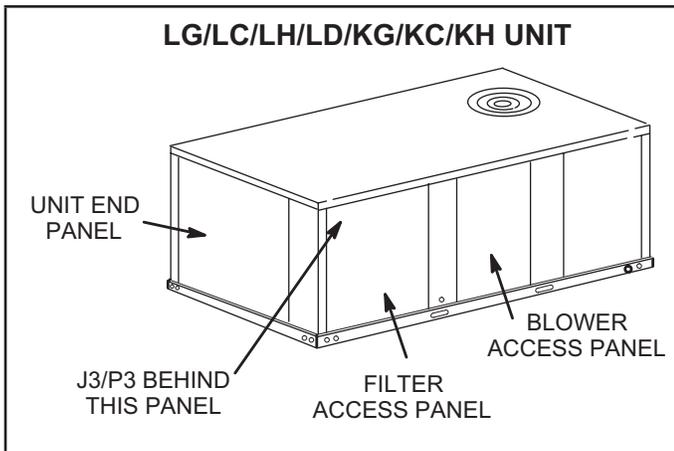

FIGURE 1
- 3 - Remove and retain five screws securing end panel to the unit. See FIGURE 1. Remove and discard end panel.
- 3 - Remove and retain screws securing end panel to the unit. See FIGURE 1. Remove and discard end panel.